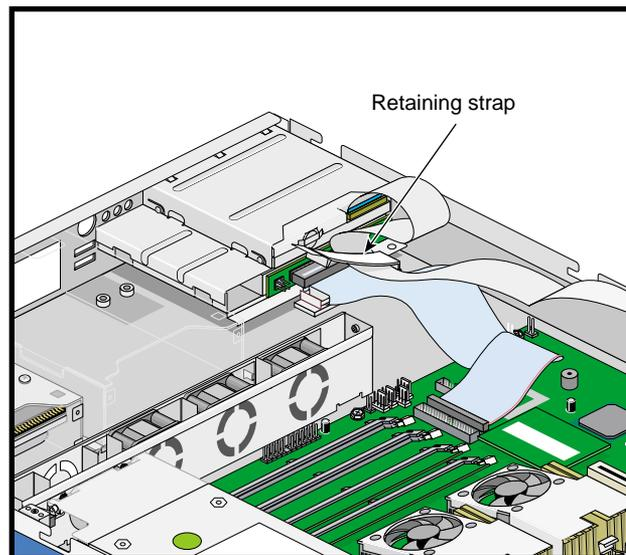

Figure 2-26 Releasing the Signal Cable Retaining Strap
3. Release the signal cable retaining strap, as shown in Figure 2-26.